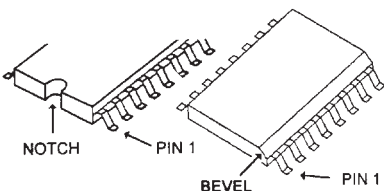

Figure 8
(See Figure 8)
- 1) Check that C3 is mounted as shown in Figure 8.